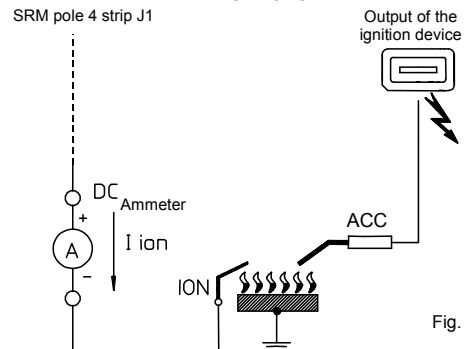
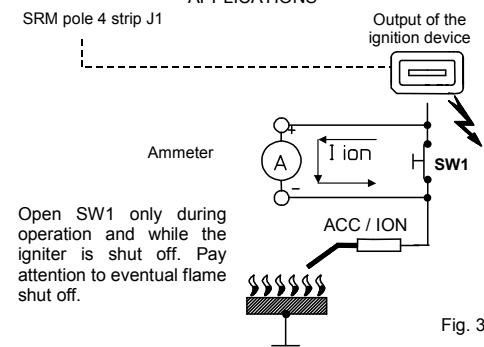

Fig. 2
Fig. 3
- The flame signal level is high enough (see Fig. 2 and Fig. 3 measurement method);